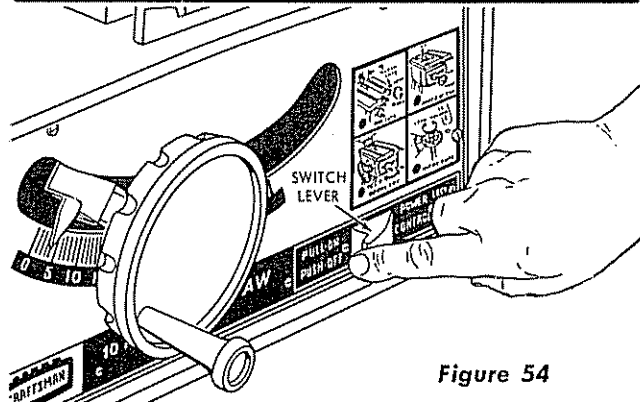
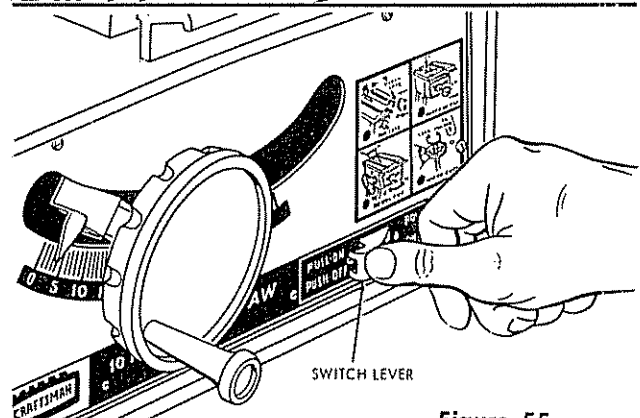

Figure 54
Figure 55
7. **ON-OFF Switch** — also at lower right of saw base. The switch lever is of unique design for maximum safety protection. It is turned "on" by inserting the forefinger under end of lever and pulling it outward. (See figure 54.)
The switch can be turned off by thumb pressure (figure 55) or by striking it with any part of the body.
**NOTE:** At this point, plug in the power cord, insert the key and turn it to the unlocked position and pull the ON-OFF switch lever out to start the saw (figure 54.) Turn off the ON-OFF switch by pressing the lever inward (figure 55) to stop the saw.